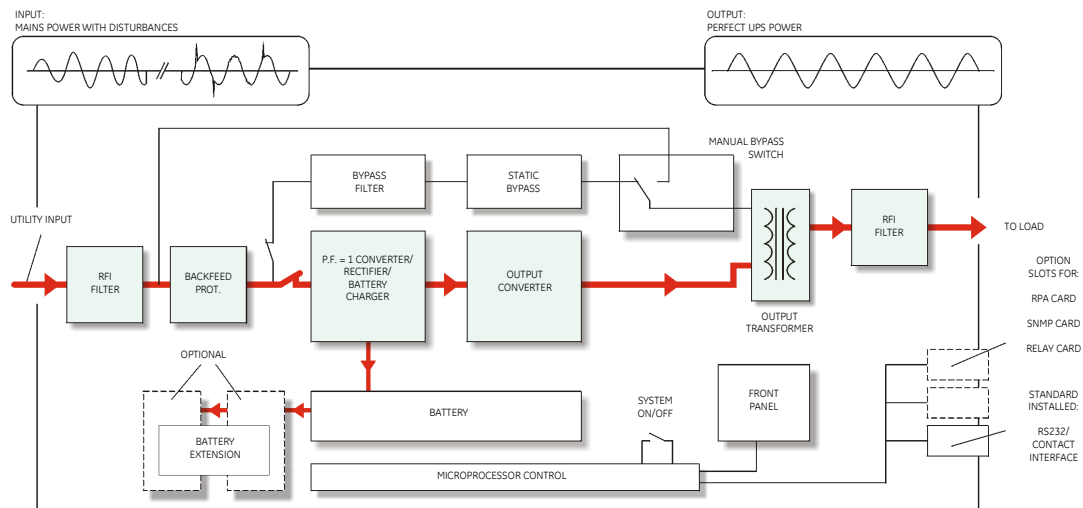

Figure 2. Block diagram of the LP 11U UPS, utility present
Energy is stored as Direct Current (DC), while input and output energy must be Alternating Current (AC). Therefore the UPS contains an input converter (AC to DC) and an output converter (DC to AC). (fig.2)